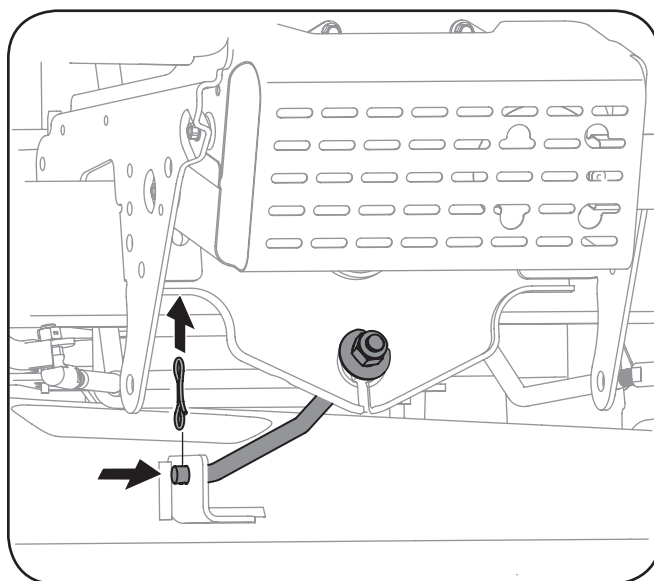

Figure 7-3
8. Remove the bow-tie cotter pin securing the deck lift rod to the deck. Slide the deck lift rod from the mounting weldment on the deck as seen in Figure 7-3.